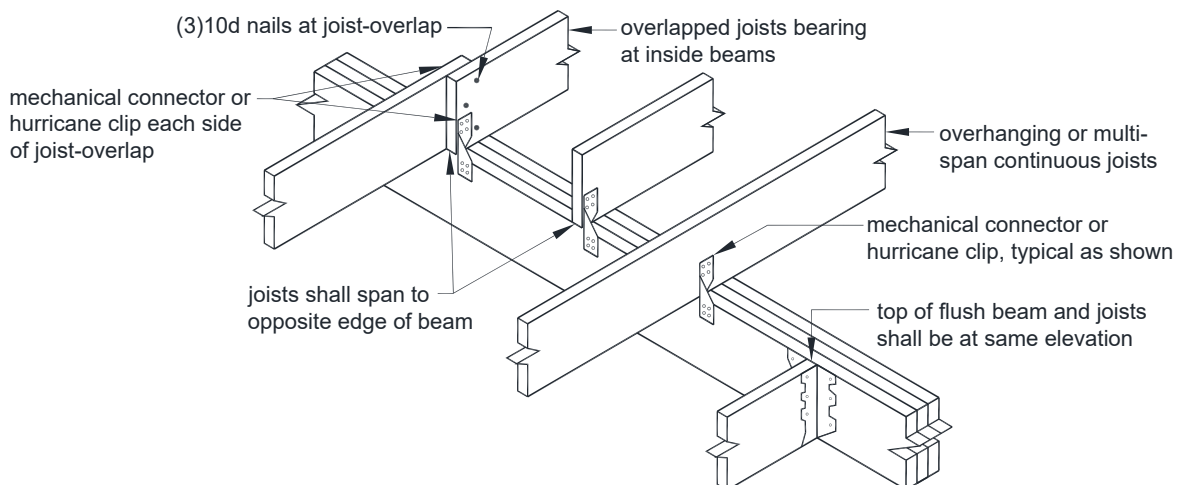

FIGURE 11: JOIST-TO-BEAM CONNECTION
- Each joist shall be attached to the beam in accordance with FIGURE 11.
- As shown in FIGURE 11, multi-span joists are permitted to span continuously over a dropped interior beam with one mechanical connector or overlap with a mechanical connector at each joist.